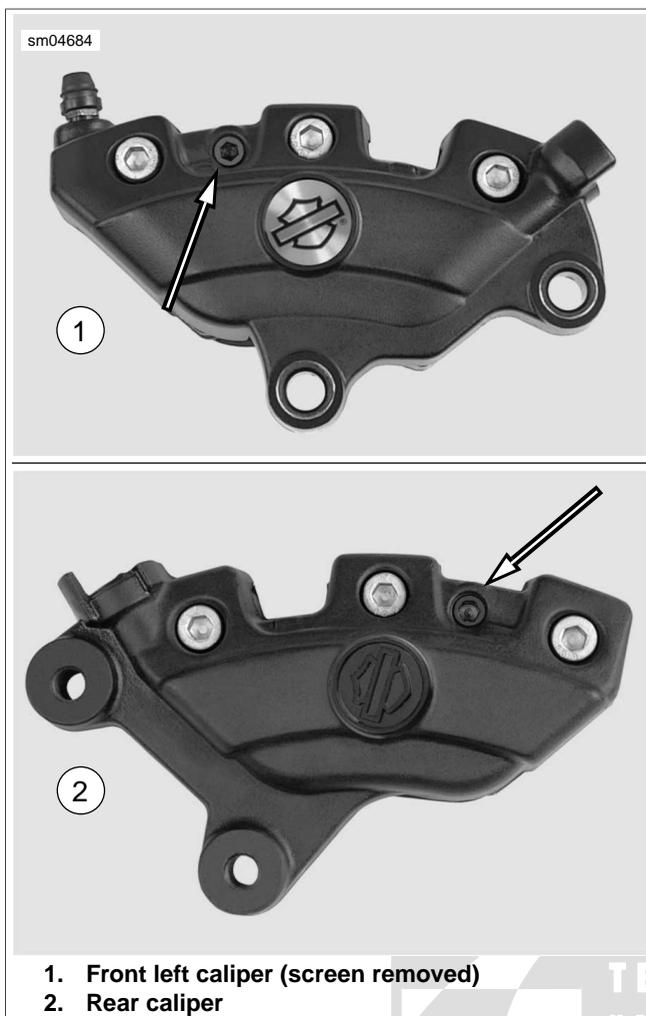

Figure 1-25. Brake Caliper Pad Pin
9. Remove pad pin (metric). See Figure 1-25.